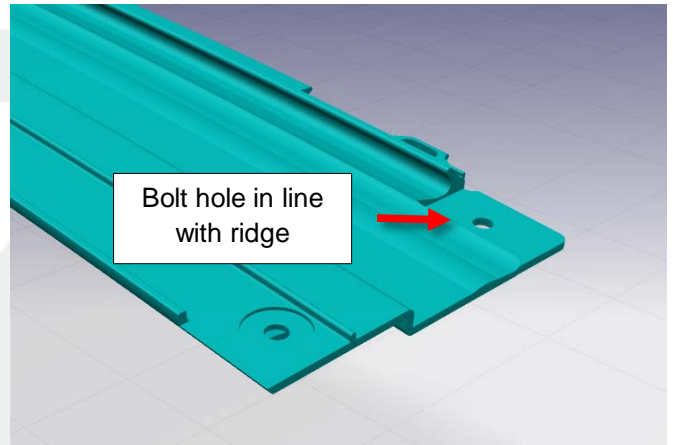

Figure 16 (RH side shown)
- There are bolt holes in line with the ridge (Figure 16).